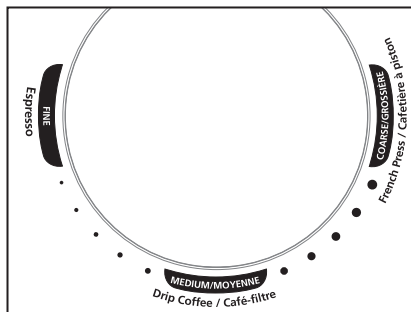

Figure 2
2. Adjust the grind size by rotating the hopper counterclockwise and then aligning the indicator on the hopper to your desired grind size (Figure 2).